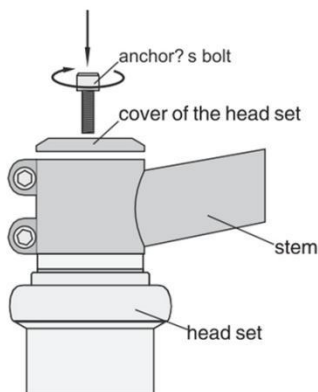

Fig.6
Step 3: Handlebar & Handlebar Stem Assembly(refer to fig. 6 and 7)
- Since your cycle may be fitted with an adjustable, a standard stem or an A-head stem(refer to fig.6), you must always check that all the bolts are tight before cycling. Based on the situation of standard handlebar stem, please follow the instruction below: